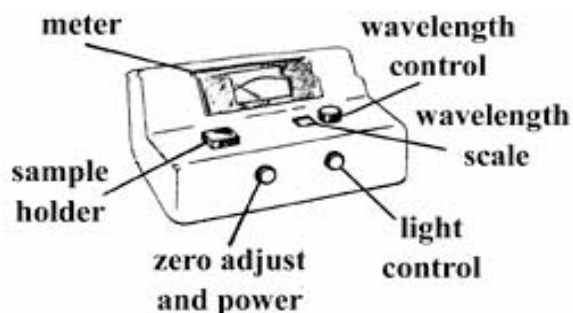

Figure 3. A typical spectrometer
1. Turn on the spectrometer (Figure 3) by rotating the power control clockwise. Allow the spectrometer to warm-up for five minutes before using.